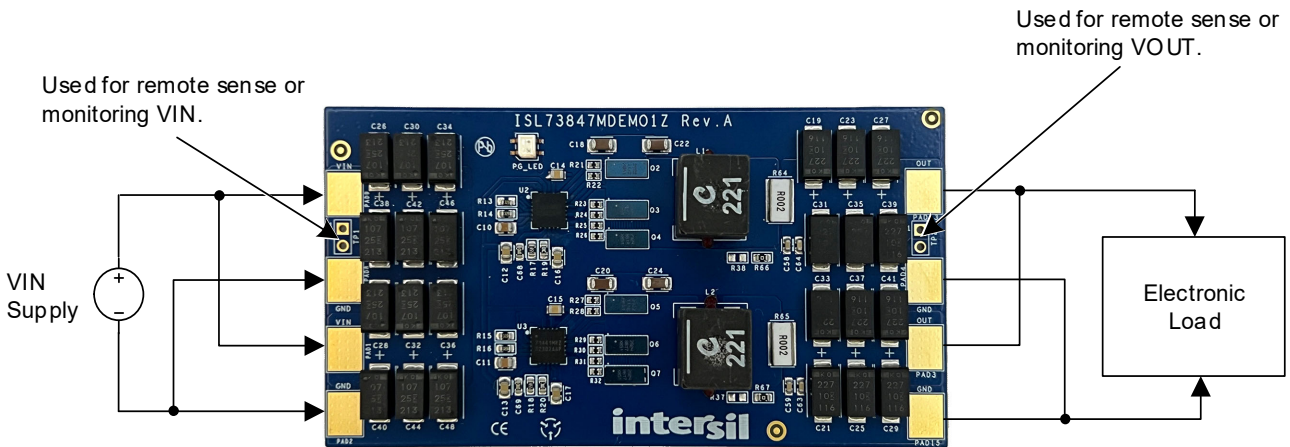

Figure 2. ISL73847MDEMO1Z Board Setup
1. Apply a 4.5V to 15V voltage to V_{IN} connectors, as shown in Figure 2. To use 4w sense lines from a power supply or a voltmeter to monitor the input voltage, solder a jumper to TP1.
2. If required, a resistor or electronic load can be connected to the V_{OUT} connectors, as shown in Figure 2. To use 4w sense lines from an electronic load, solder a jumper to TP2.